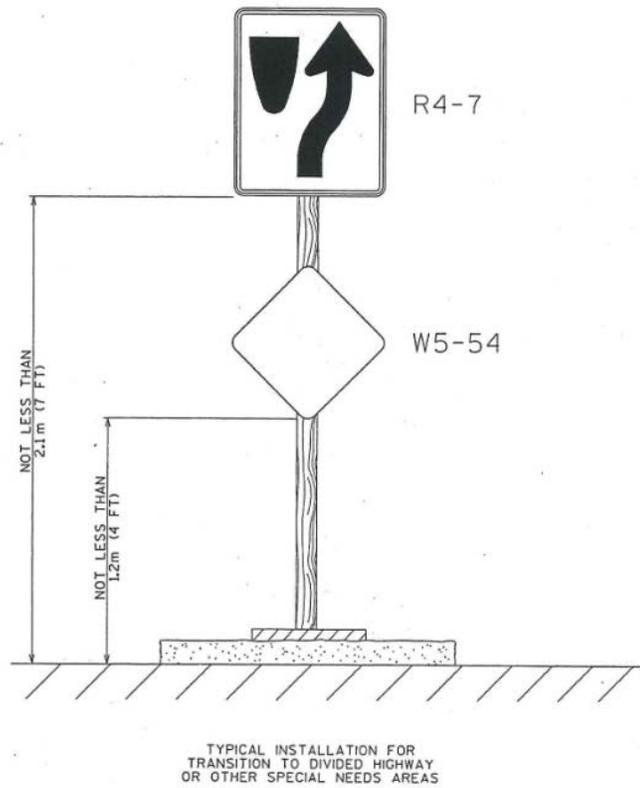

FIGURE 1
4. The mounting height of the W5-54 sign **shall not** be less than 4 feet (see Figure 1).